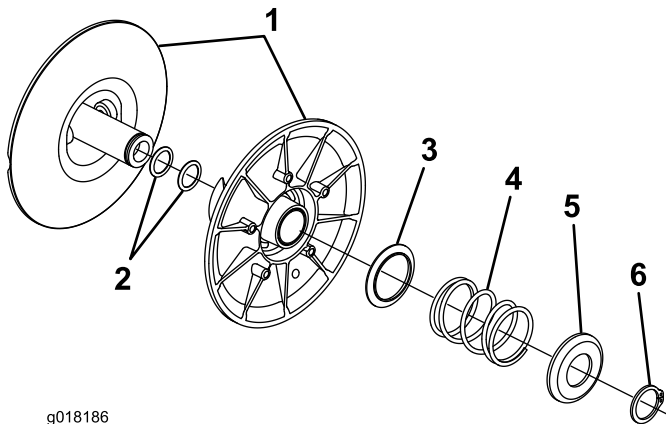

Figure 9
6. Turn the clutch around (Figure 9).
7. Using the spring compression tool (TOR-6027), compress the outer spring retainer and spring inward relieving pressure on the retaining ring (Figure 9).
9. Pull the two halves of the clutch apart (Figure 9).
10. Slide a shim onto the clutch shaft (Figure 9).